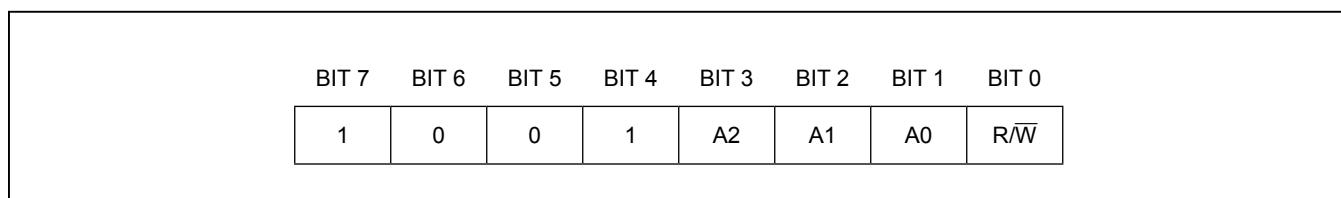

Figure 7. Address Byte
**Address Byte:** The control byte is transmitted by the master and consists of the 7-bit slave address plus a read/write ( $R/\bar{W}$ ) bit (see Figure 7). If the master is going to read data from the slave device then  $R/\bar{W} = 1$ , and if the master is going to write data to the slave device then  $R/\bar{W} = 0$ .